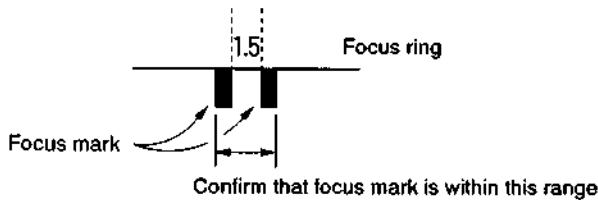

Fig. 7-38.
- 6) Manually rotate the focus ring to set the focus. Confirm that the focus mark is inside the range shown in Fig. 7-38 at this time.